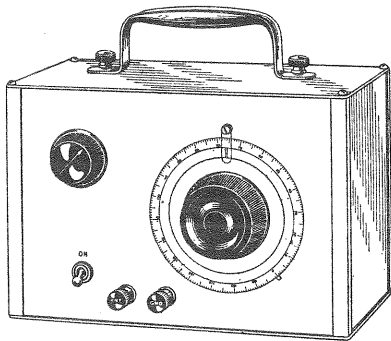
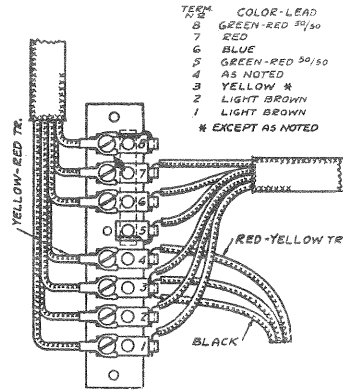
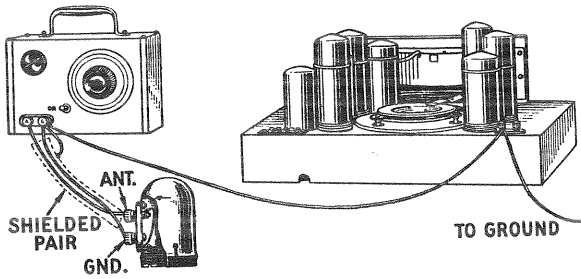

Fig. 6—Victor Oscillator.
Fig. 8—Top View of Amplifier Terminal Strip.
Fig. 10—Wiring for Exploring Coil Tests.
a. **Terminal Strip Tests.** Test the voltages at the terminal strip, Fig. 8, with all tubes in place and compare the readings with those listed in chart No. 1 on page 15. This will tell in a general way if the proper voltages are being delivered to the chassis from the amplifier.
Touch a wire across terminals 4 and 6 of the amplifier terminal strip as shown in Fig. 8. If there is a noticeable click in the speaker as this is done, it will be known that the audio amplifier and speaker system is functioning properly.
c. **Radio Chassis Tests with Exploring Coil and Oscillator.** If an oscillator such as shown in Fig. 6 and a 0-4 volt A. C. voltmeter (in Weston 547) are available, a quick and simple test can be made to locate any defect in the R. F. circuit between the detector and the antenna binding post. An exploring coil is used, consisting of several turns of No. 18 insulated solid copper wire fitted into a UX-227 tube shield, stock No. A2319. The shield is equipped with a set of antenna and ground binding posts as shown in wiring diagram, Fig. 10. One end of the coil is connected to the "ANT." post and the other end is left disconnected. The "GND." post is grounded to the shield. The meter is connected to terminal 3 of the amplifier terminal strip, Fig. 8, and to the link terminal on the amplifier base, nearer the UX-245 Radiotron. The link is left disconnected.